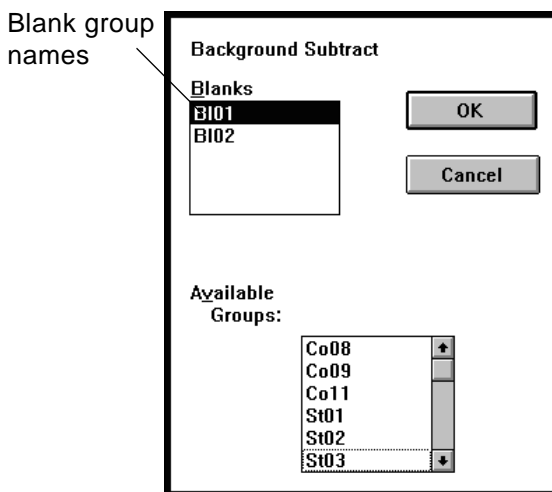

Figure 2-9 Background Subtract Dialog Box
2. Click **Background**. The Background Subtract dialog box appears (Figure 2-9).